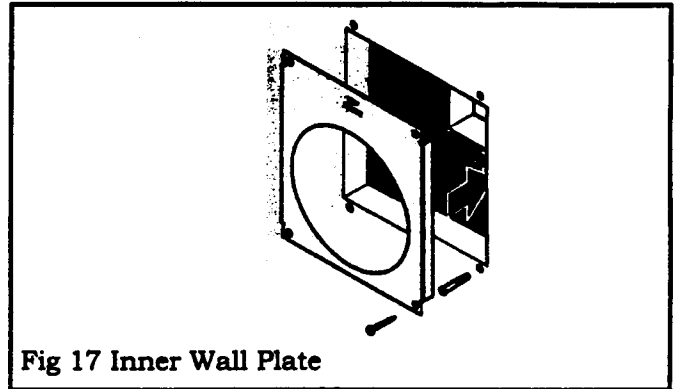

Fig 17 Inner Wall Plate
8.1.2.2 Place the inner wall plate on the inside wall. Make sure that the plate is the correct way up (it is marked "top"). The side flanges should enter the hole. Mark the four fixing holes on the wall. Remove the plate. Plug the wall. Replace the plate and fix with four wood screws provided. (Fig. 17).